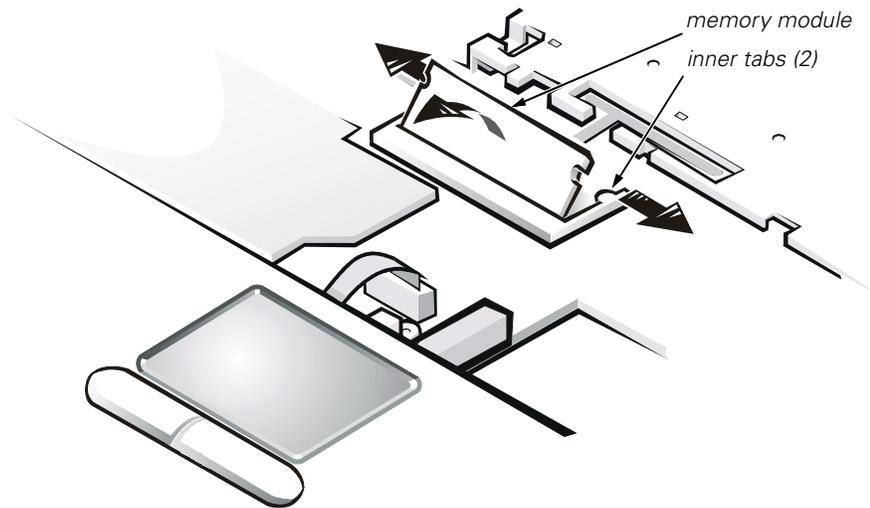

Figure 13. Memory Module Removal
4. To release the memory module from its socket, carefully spread apart the inner tabs of the memory module socket just far enough for the memory module to disengage from the socket (it should pop up slightly) (see Figure 13).